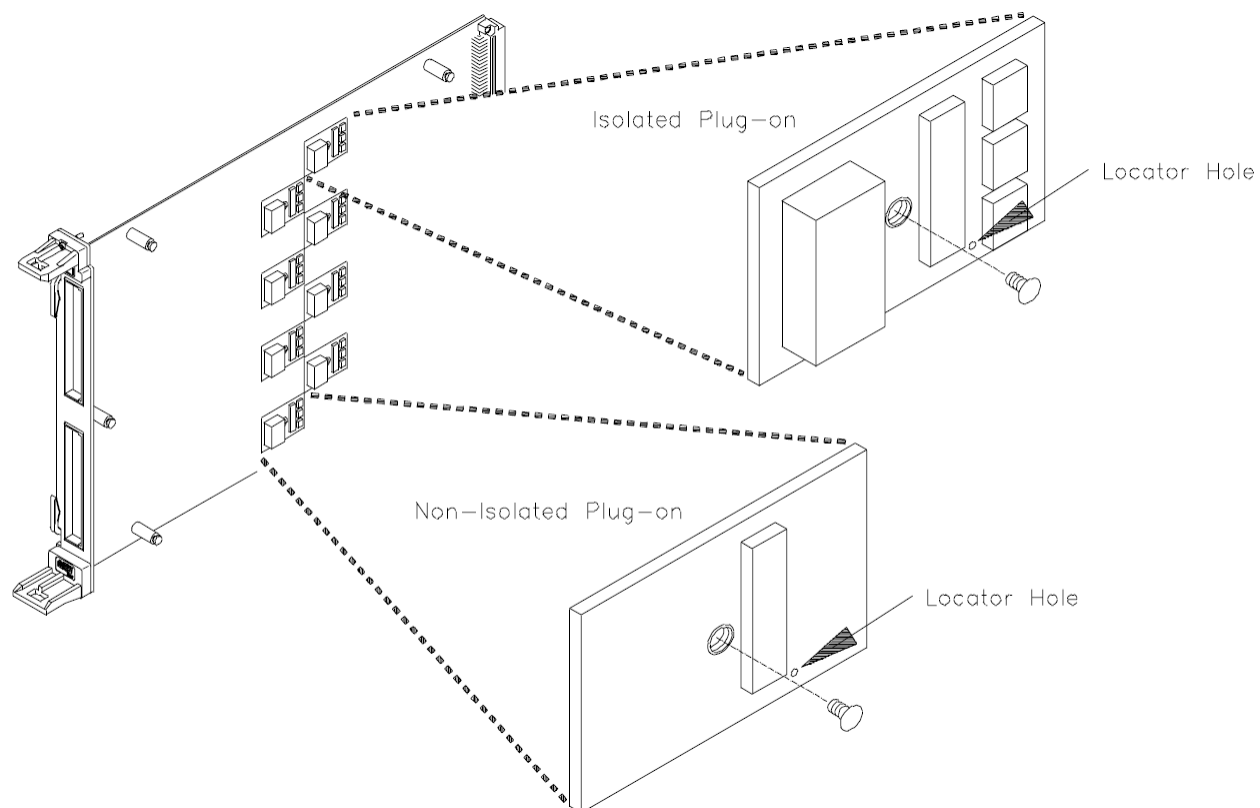

Figure E-4 Installing Plug-on Modules
- 4** Use Figure E-4 to identify isolated or non-isolated plug-on modules. Install the new plug-on module as shown in Figure E-4. Note the locator pin on the main board or expansion board that ensures correct orientation. Replace the screw in the plug-on module.